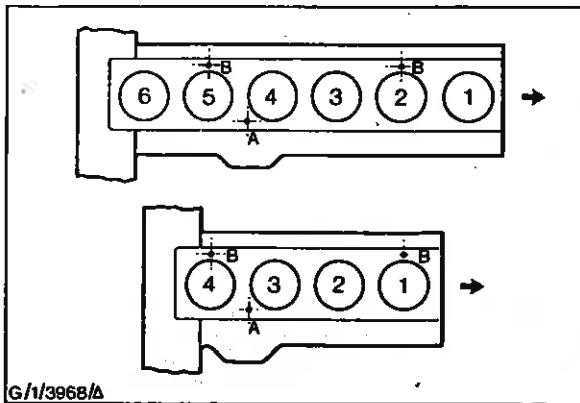

Fig. 74 - Cylinder Head/Gasket Locating Dowels
94. Check to ensure the locating dowels are fitted into the counterbores of the two head bolt threads and the water circulating passage at the positions shown in Fig. 74.